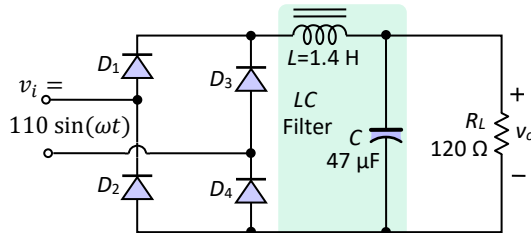

Fig.3-110: LC filter for Exercise no. 23
23. Fig.3-110 shows an LC filter at the output of a full-wave rectifier. Calculate the value of DC output voltage and the ripple factor.